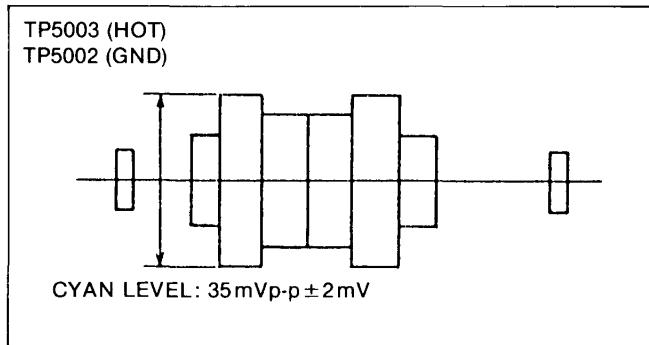

Figure E16
5. Adjust VR5002 so that the cyan level is 35 +/- 2mVp-p as shown in Figure E16.